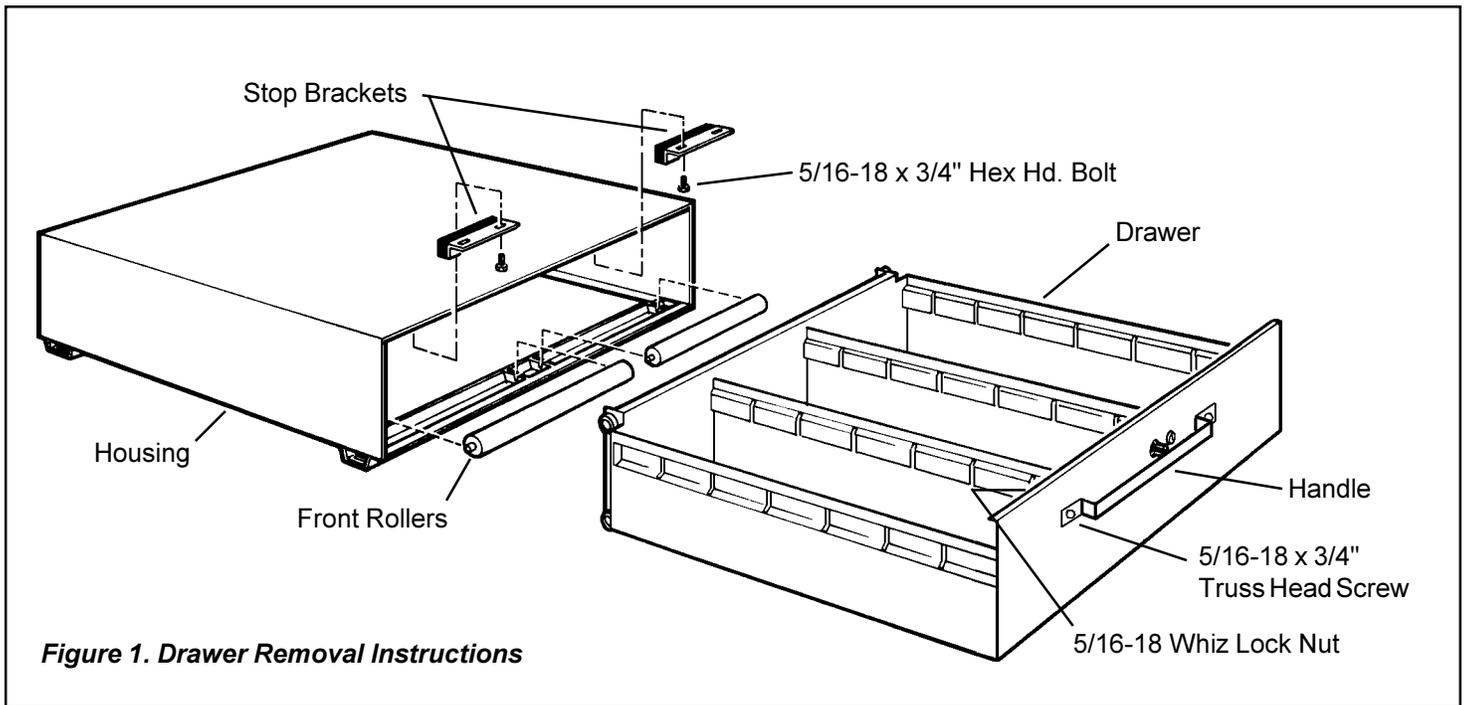

Figure 1. Drawer Removal Instructions
4. Reinstall the drawer to the unit by reversing the removal steps shown in Figure 1.